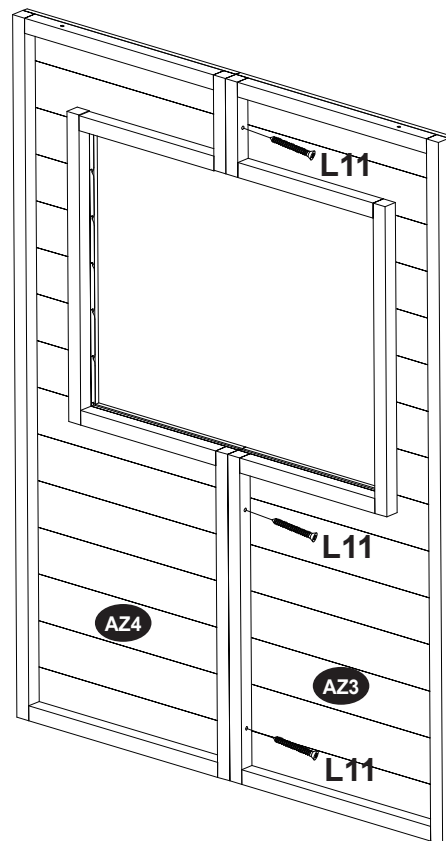

FIGURE 2
- Connect AZ3 to AZ4 using L11(3pcs) as shown in Figure 2.